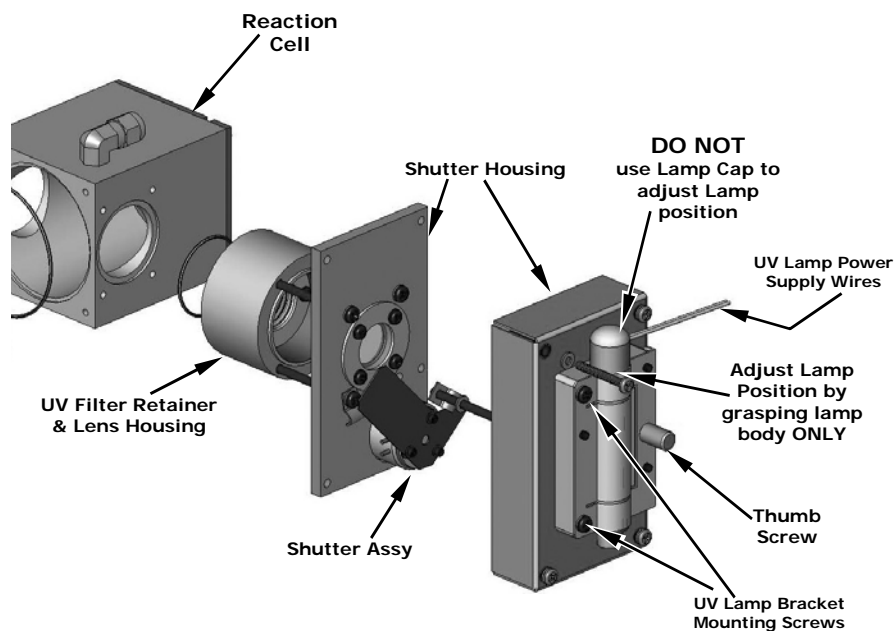

Figure 10-1: Shutter Assembly - Exploded View
2. Slightly loosen the large brass thumbscrew located on the shutter housing (see Figure 10-1) so that the lamp can be moved.
DO NOT grasp the UV lamp by its cap when changing its position (see Figure 10-1). Always grasp the main body of the lamp.
3. Loosen, but do not remove the two UV lamp bracket screws, and the large brass thumbscrew located on the shutter housing (see Figure 10-1) so that the lamp can be moved.